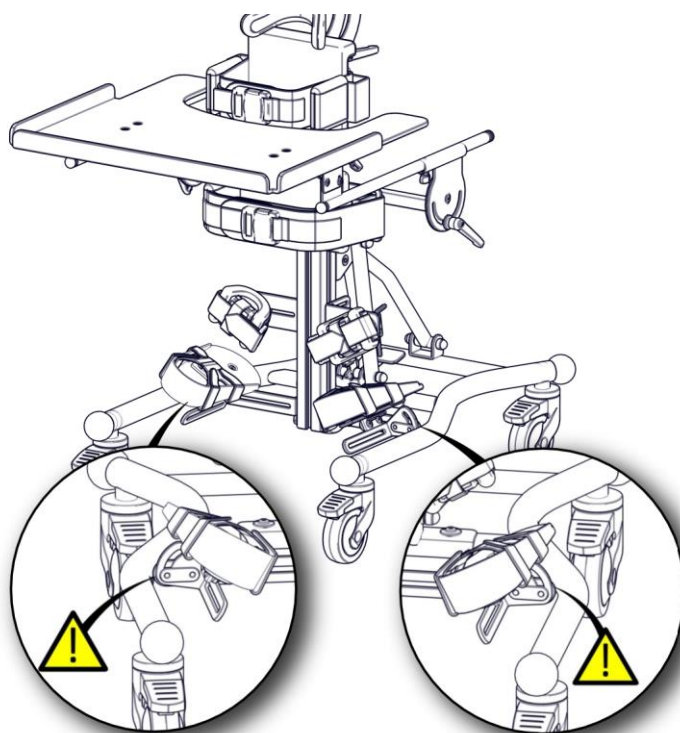

Figure 5
To install the column on the standing frame, first unscrew the screws (1) and then place the pin (2) in the opening of the system profile holder (3). When aligning the column, make sure that the distance between the foot platform supports and the frame profiles (see Fig. 5.) is even. The last step of the installation is tightening the frame to the column with the previously unscrewed screws (1).